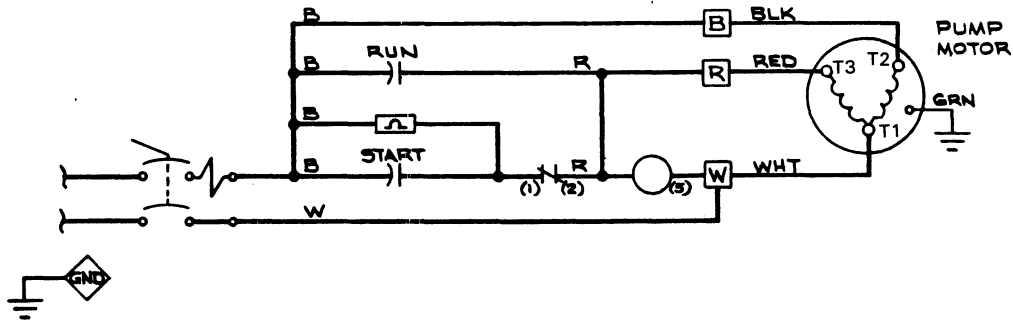
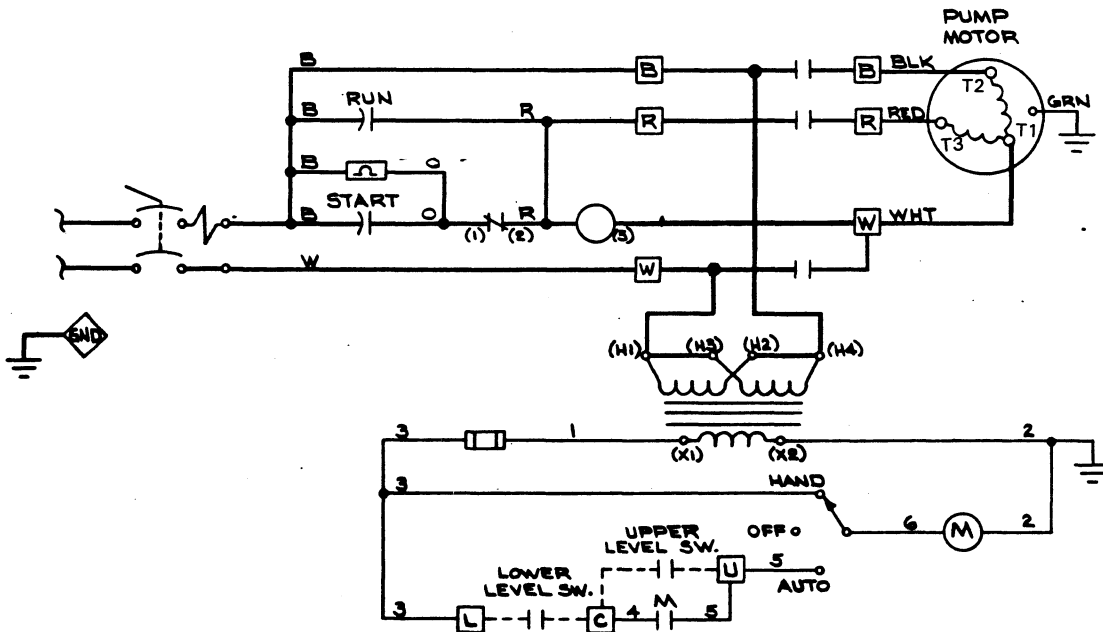
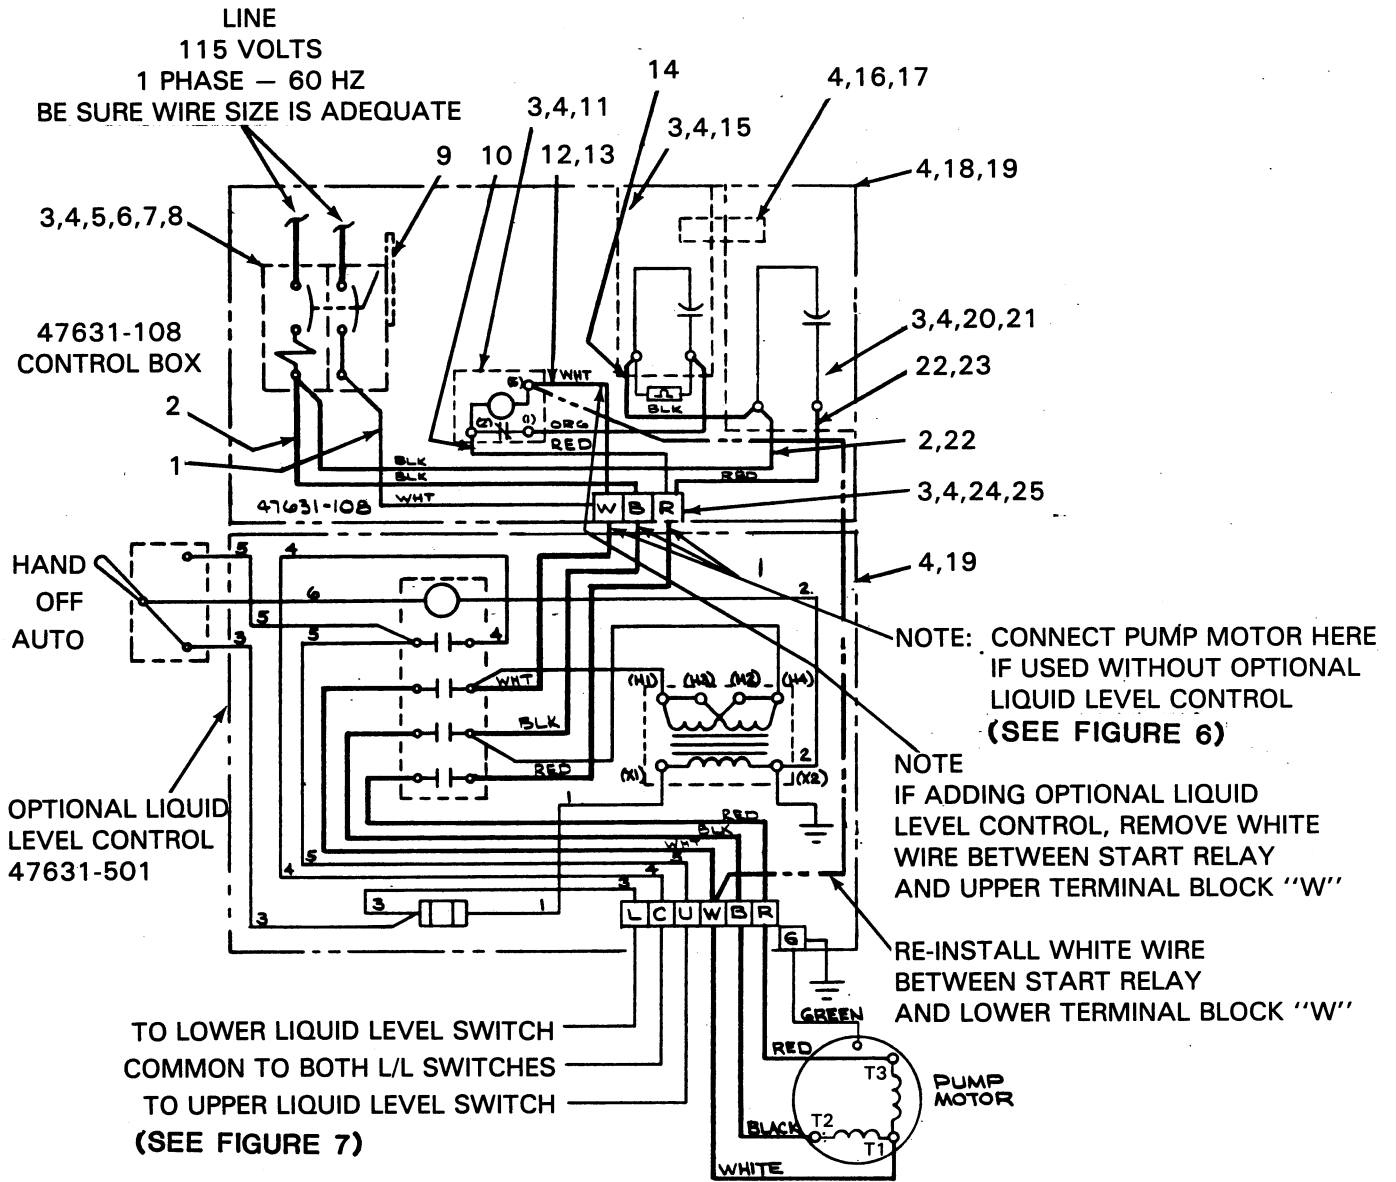

Figure 6. Elementary Wiring Diagram (Without Liquid Level Controls)
Figure 7. Elementary Wiring Diagram (With Liquid Level Controls)
Figure 8. 47631-108 Control Box Assembly - Pictorial Wiring Diagram
See Figure 8 on page B-15 for internal parts.
- a. Measure the incoming voltage across lines (1 & 2) while the pump is **operating at full capacity**. See Figure 6 on page B-14 or Figure 8 on page B-15.
Connect the pump power cable to the control box as shown in Figure 6 on page B-14 or Figure 8 on page B-15. Use conduit or cable clamps to secure the power and
If liquid level controls are to be installed, connect the motor power cables and level control power cables as shown in Figure 7 and Figure 8 on page B-15.
See Figure 8 on page B-15 for a pictorial wiring diagram and callouts of the control box assembly internal parts.